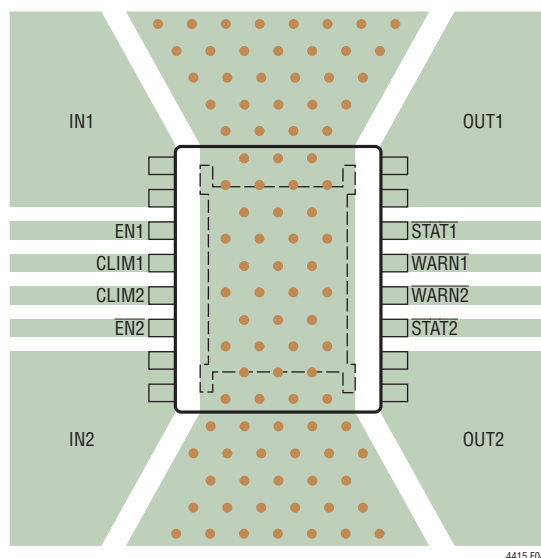

Figure 4. Example Board Layout for a Double-Sided PCB
1. Connect the exposed pad of the package (Pin 17) directly to a large PC board ground to minimize thermal impedance. Correctly soldered to a 2500mm² double-sided 1oz copper board, the DFN package has a thermal resistance (θ_{JA}) of approximately 43°C/W. Failure to make good contact between the exposed pad on the backside of the package and an adequately sized ground plane results in much larger thermal resistance, raising the die temperature for given power dissipation. An example layout for double layer board is given in Figure 4. Via holes are used in the board under and near the device to conduct heat away from the device to the bottom layer.